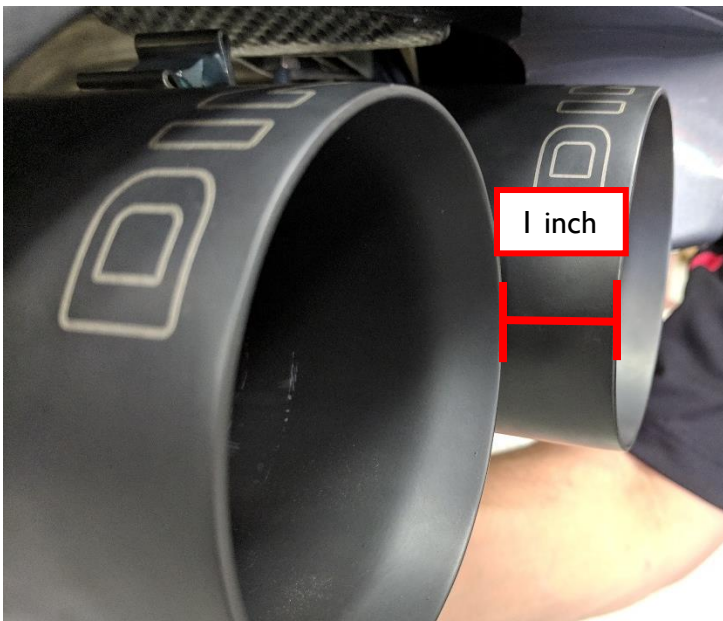

Figure 14
9. The outside tips should be offset one inch from the inside tips. See Figure 14.